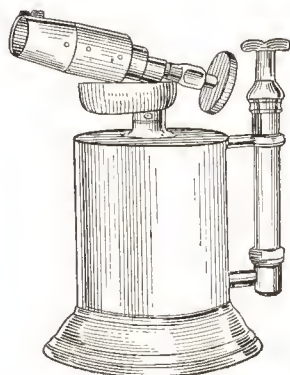

FIG. 44
**Gasoline Blow-Torch:** Figure 44. This is the common form of blow torch familiar to all mechanics. It is used by the painter to burn off paint which has cracked and scaled. It is filled with gasoline and pumped full of air. There is a pump in the handle. The intensely hot flame directed on to a painted surface causes the paint to blister.